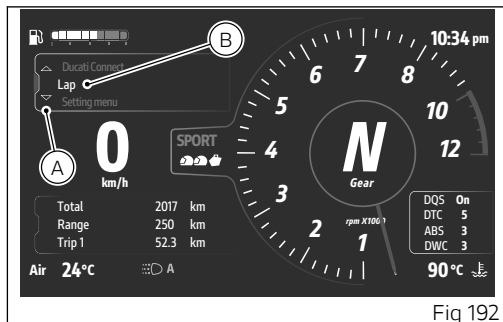

Fig 192
- Select the Interactive Menu (A, Fig 192) by pressing and holding the joystick in position ▲ for a long time.
- Use the joystick ▲ ▼ to select "Lap" (B, Fig 192) and press ENTER.